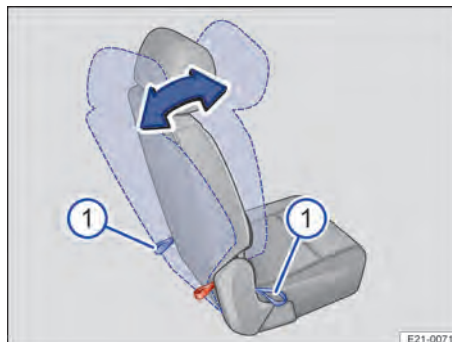

Fig. 64 Second row of seats: adjusting the angle of the backrest.
1. Apply pressure to the backrest with one hand and at the same time pull one of the corresponding loops behind the seat or at the side of the seat forwards → Fig. 64 ⓘ.